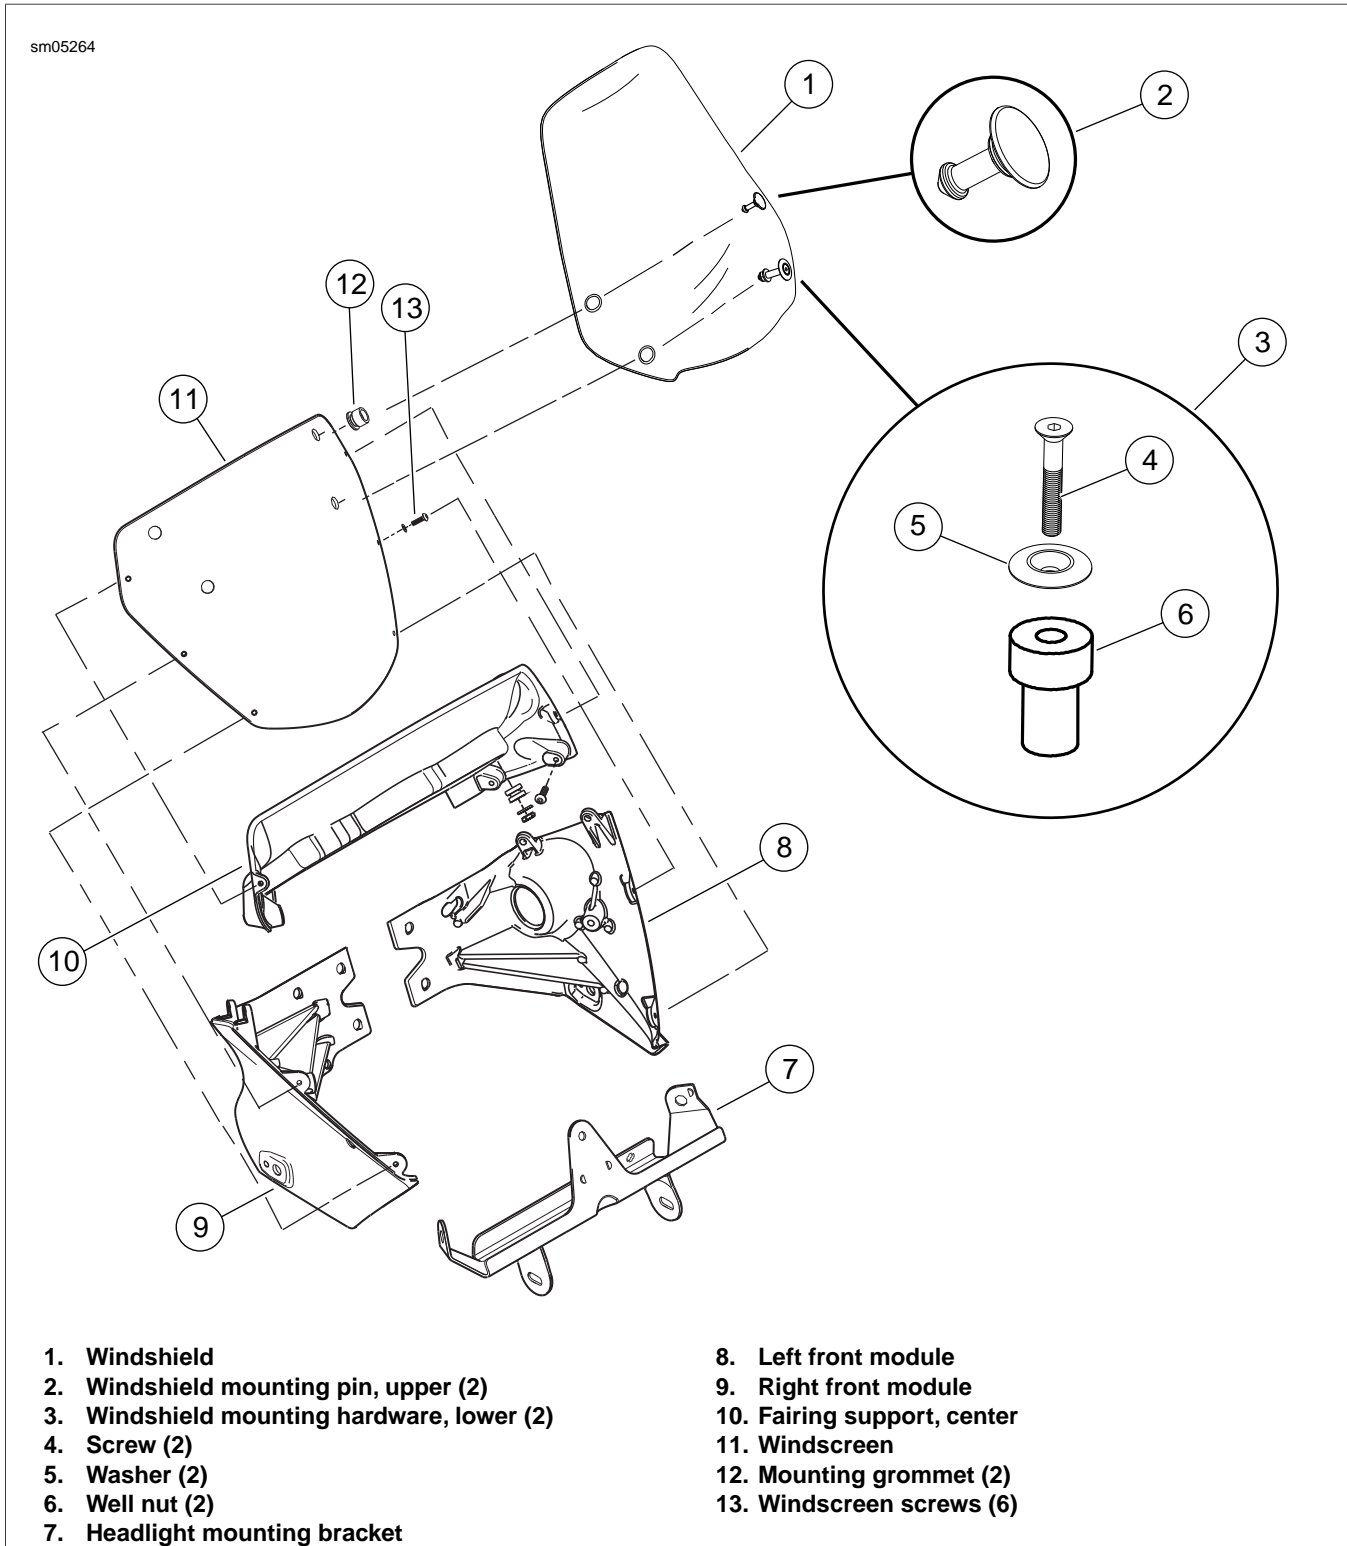

Figure 2-184. Windshield and Windscreen: Ulysses XB12XT/XB12XP
- See Figure 2-184. The windshield is secured to the windscreen using two screws (4) with well nuts (6) and two mounting pins (2).
1. See Figure 2-184. Install windshield onto windscreen by aligning the mounting pins (2) on the windshield with the mounting grommets (12) on the windscreen and pushing in place to install. Pull on windshield to verify attachment.
2. Insert well nuts (6) into the windshield and windscreen holes.